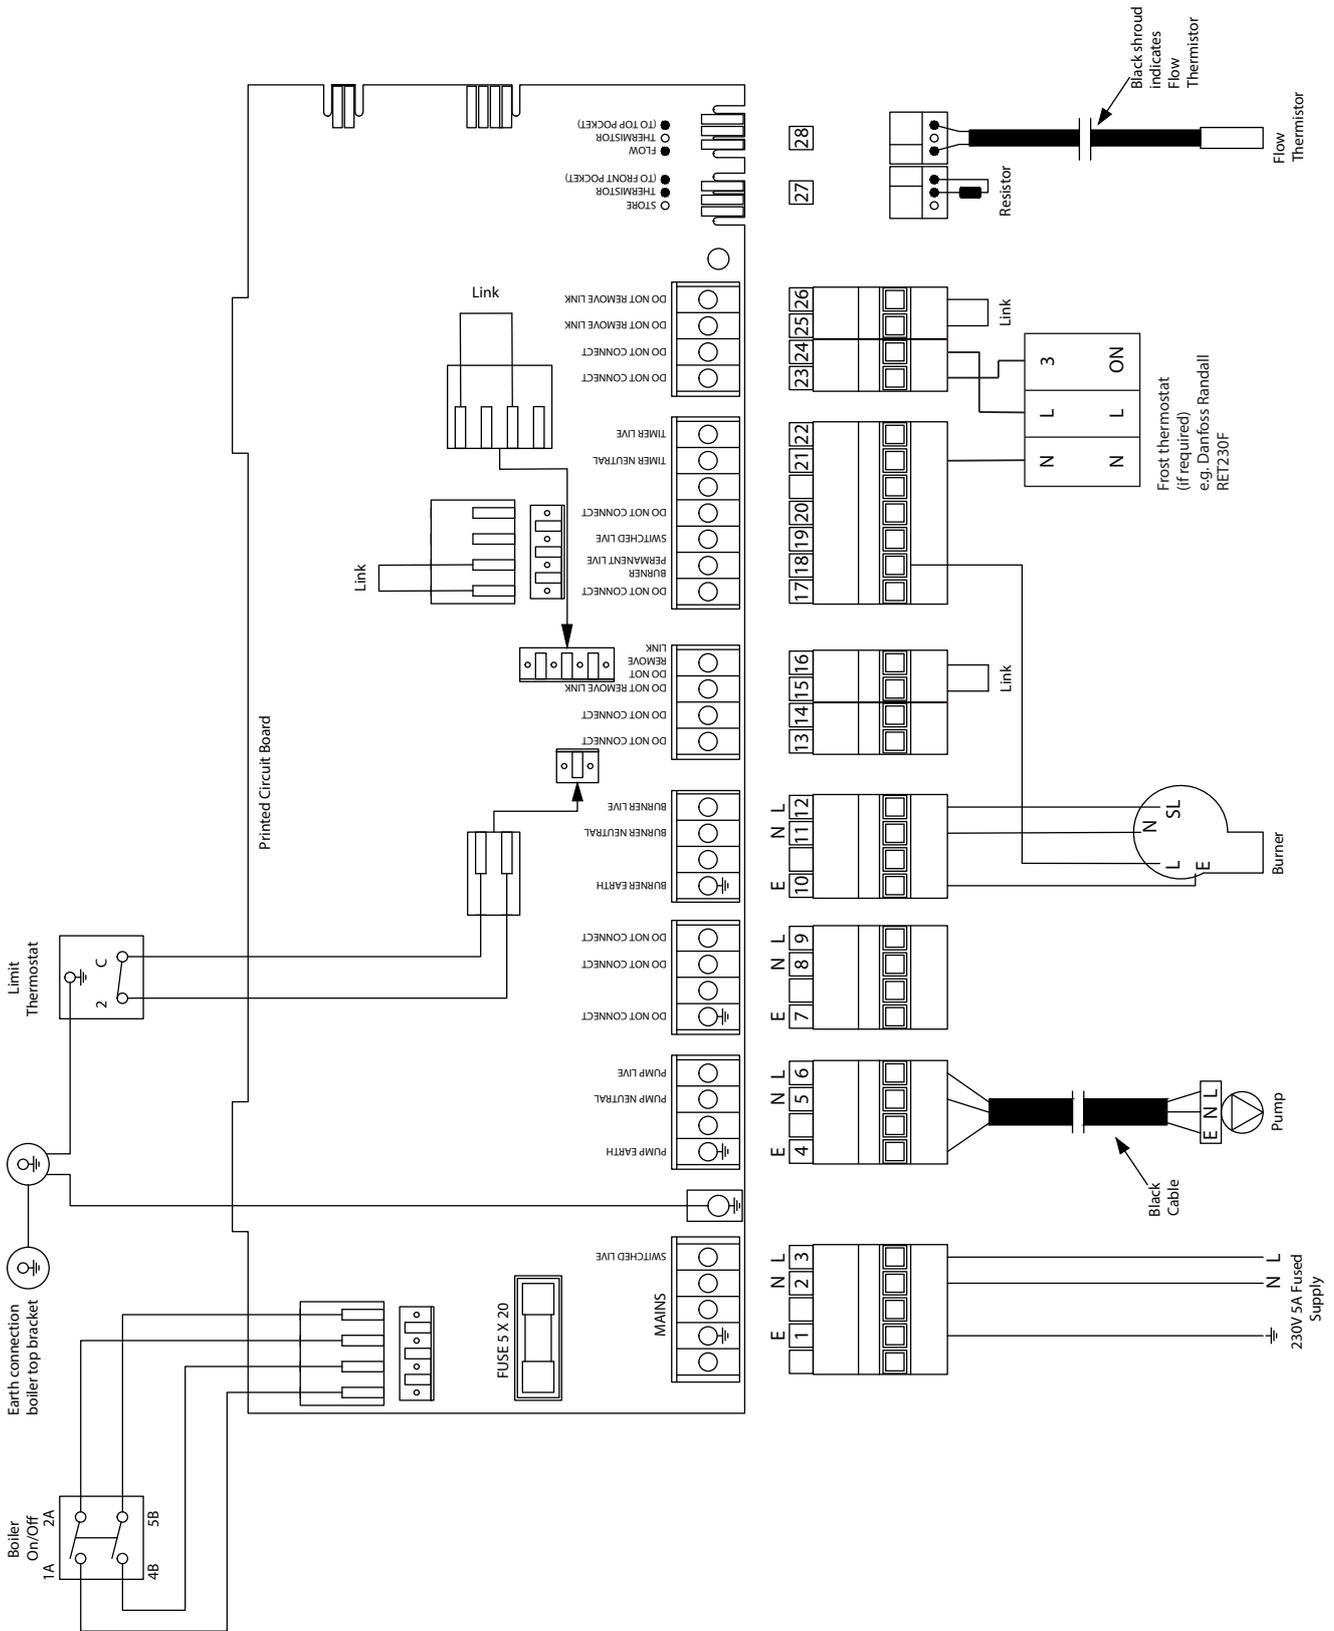

Figure 8-1: VortexBlue Internal control panel wiring diagram
- Frost thermostat Neutral (N) to terminal 21 on PCB connector.
- Frost thermostat Live (L) to terminal 24 on PCB connector.
- Frost thermostat Switched Live-ON (3) to terminal 23 on PCB connector.
6. Refer to Figures 8-1 and 8-2 for typical connection of Remote Frost Thermostat.